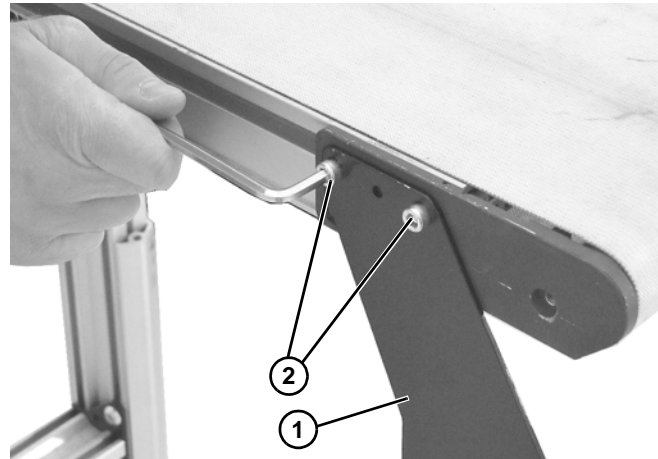

Figure 14
8. Install opposite end support plate (**Figure 14, item 1**) with screws (**Figure 14, item 2**). Tighten screws to 80 in-lb (9 Nm).